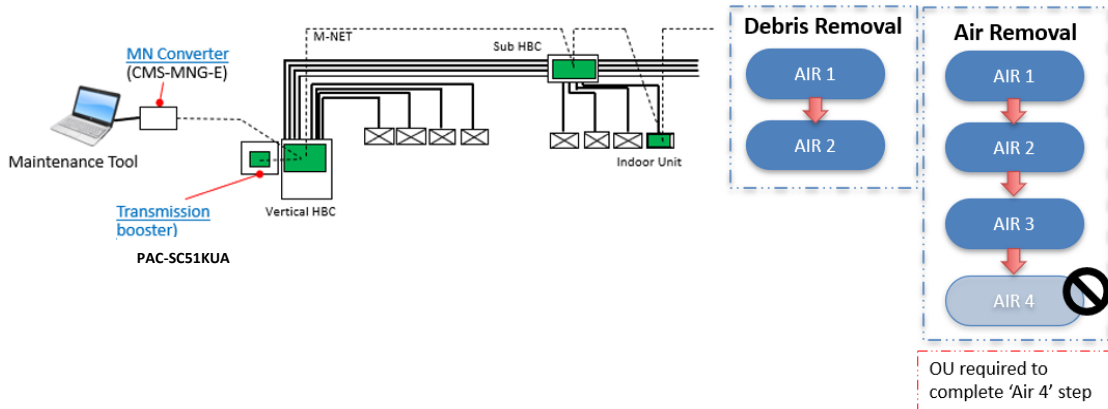

Fig. 13
- As shown in figure 13, the Vertical HBC system can be partially commissioned without the outdoor unit.